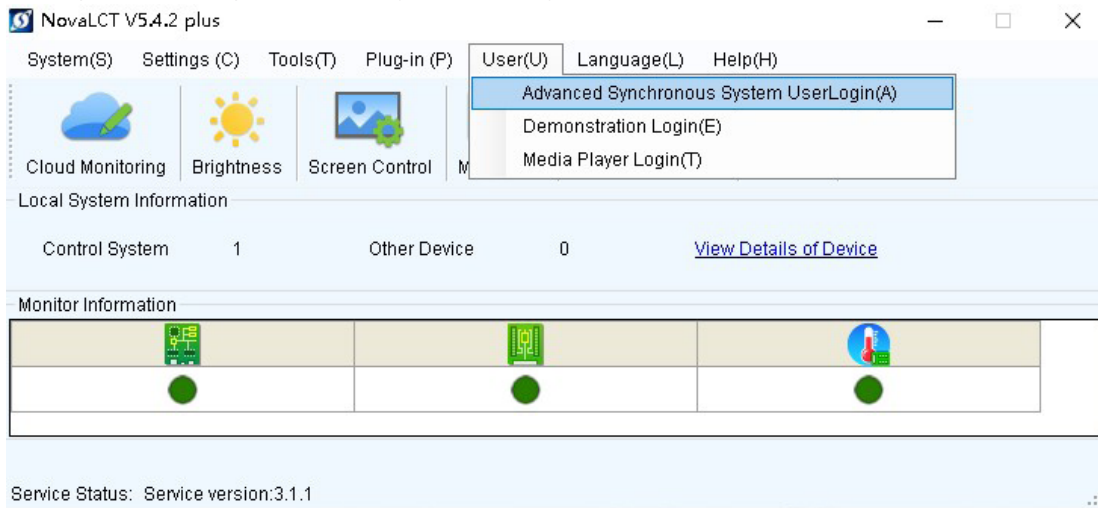

Figure 1-1
1. Select **Advanced Synchronous System User Login(A)**. See Figure 1-1.